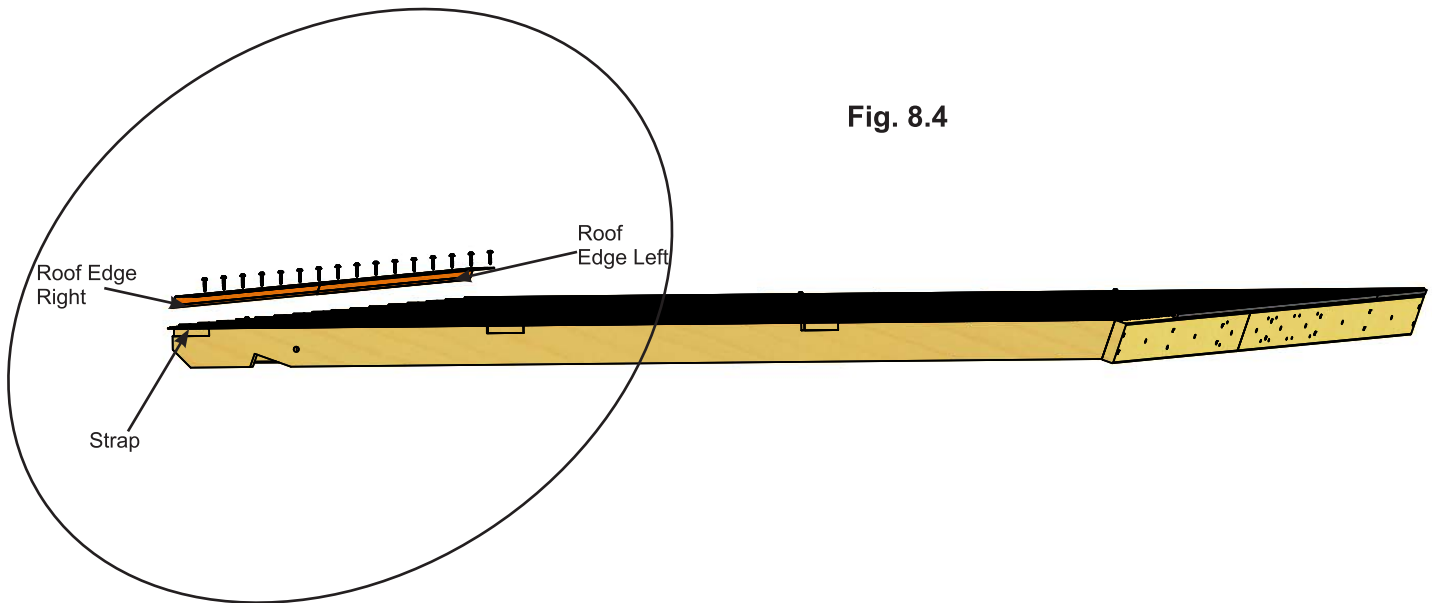

Fig. 8.4
E: Place one Roof Edge Left and one Roof Edge Right on the bottom of one Roof Panel Frame so they meet tight and the ends are flush with the outside ends of (466) Short Strap and (465) Long Strap. Pre-drill the end hole on Roof Edge Left with a 1/8" drill bit then attach both Roof Edges with 16 #8 x 1" Hex Roofing Screws. (fig. 8.4 and 8.5)